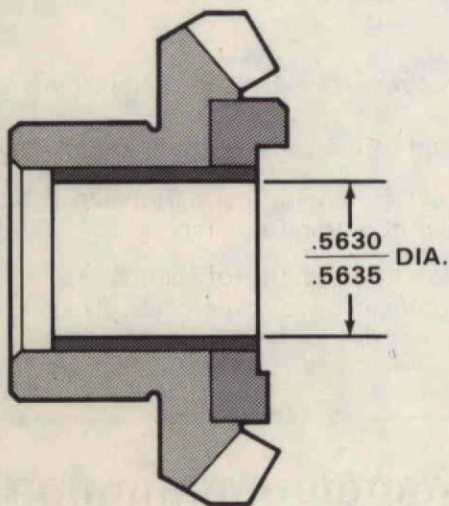

Figure 29. Rear Bevel Gear Bearing I.D.
8. Inspect rear bevel gear with bearing. Measure I.D. of bearing. Bearing can not be replaced except as an assembly. Figure 29.